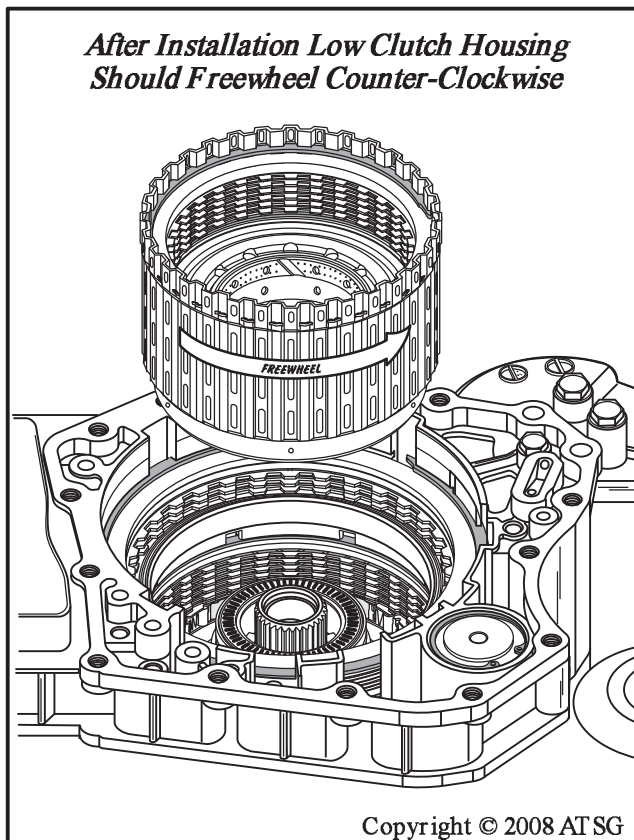

Figure 198
22. After installation, check the rotation of the low clutch housing, as shown in Figure 198.
Note: Low clutch housings should freewheel counter-clockwise and lock clockwise, as shown in Figure 198.